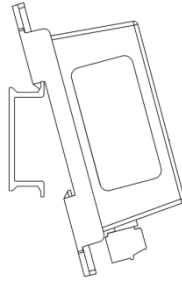

Figure 3: Catch EZ Mount hook on DIN rail before rotating sensor into place
2. Catch EZ mount hook on DIN rail as shown in Figure 3.